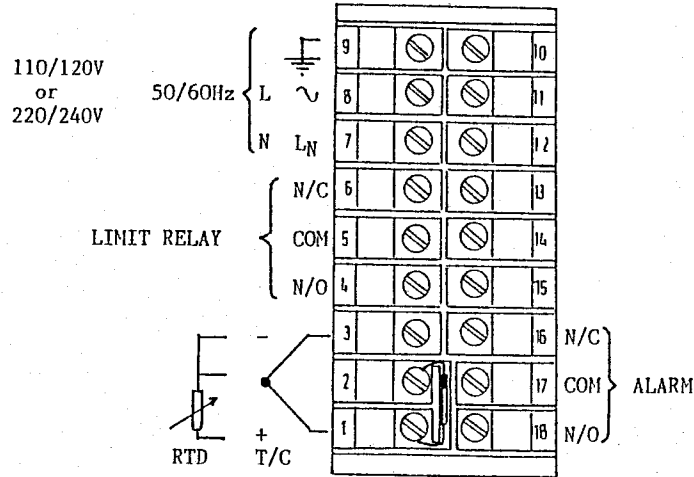

FIGURE 2-3 3077 REAR CONNECTIONS
2.7 CONNECTIONS AND WIRING (Figure 2-3)